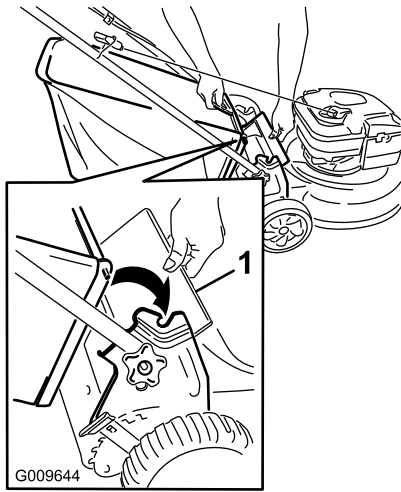

Figure 14
1. Lift up the rear deflector (Figure 14).
2. Insert the grass bag handle onto the notches on the handle brackets (Figure 14).